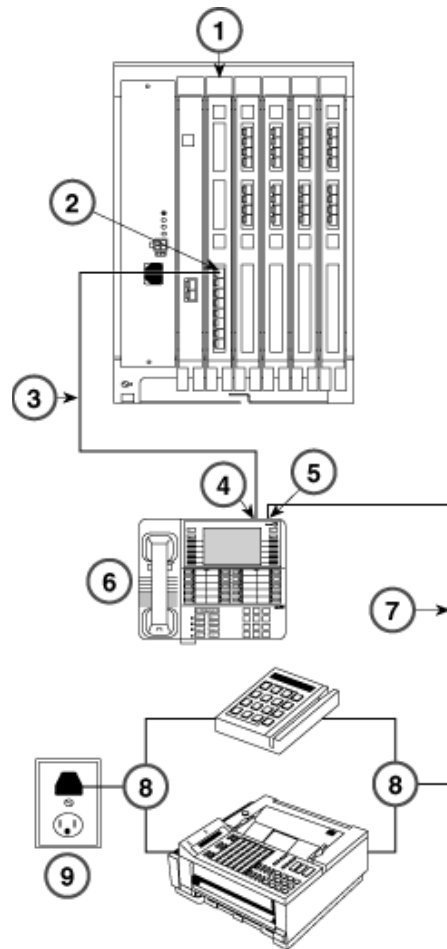

Figure 6-2. Analog Data with no External Modem through MLX Telephone with MFM
- Through an MFM installed in the base of an MLX telephone, as shown in Figure 6-2. Figure 3-37 “Setting and Adjusting the MFM Jumpers” on page 3-62 shows the required jumper settings for MFM Tip/Ring operation.
In Figure 6-2, the modem connects to the MLX telephone through the Tip/Ring interface of the Multi-Function Module (MFM), which is installed in the MLX telephone. The MFM allows the analog modem to connect to the digital telephone (the telephone plugs into the system through an MLX port on the control unit). Both the telephone and data terminal have their own extension numbers, operate independently, and are programmed independently. The telephone uses the main extension number (for example, extension 16 in a 2-digit numbering plan), and the modem